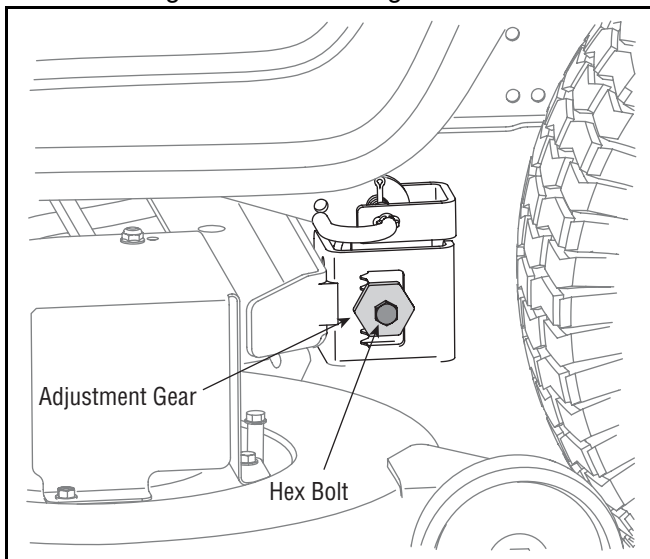

Figure 13
3. Loosen, but do NOT remove, the hex bolt on the left deck hanger bracket. See Figure 13.
4. Balance the deck by using a wrench to turn the adjustment gear (See Figure 13) up or down.